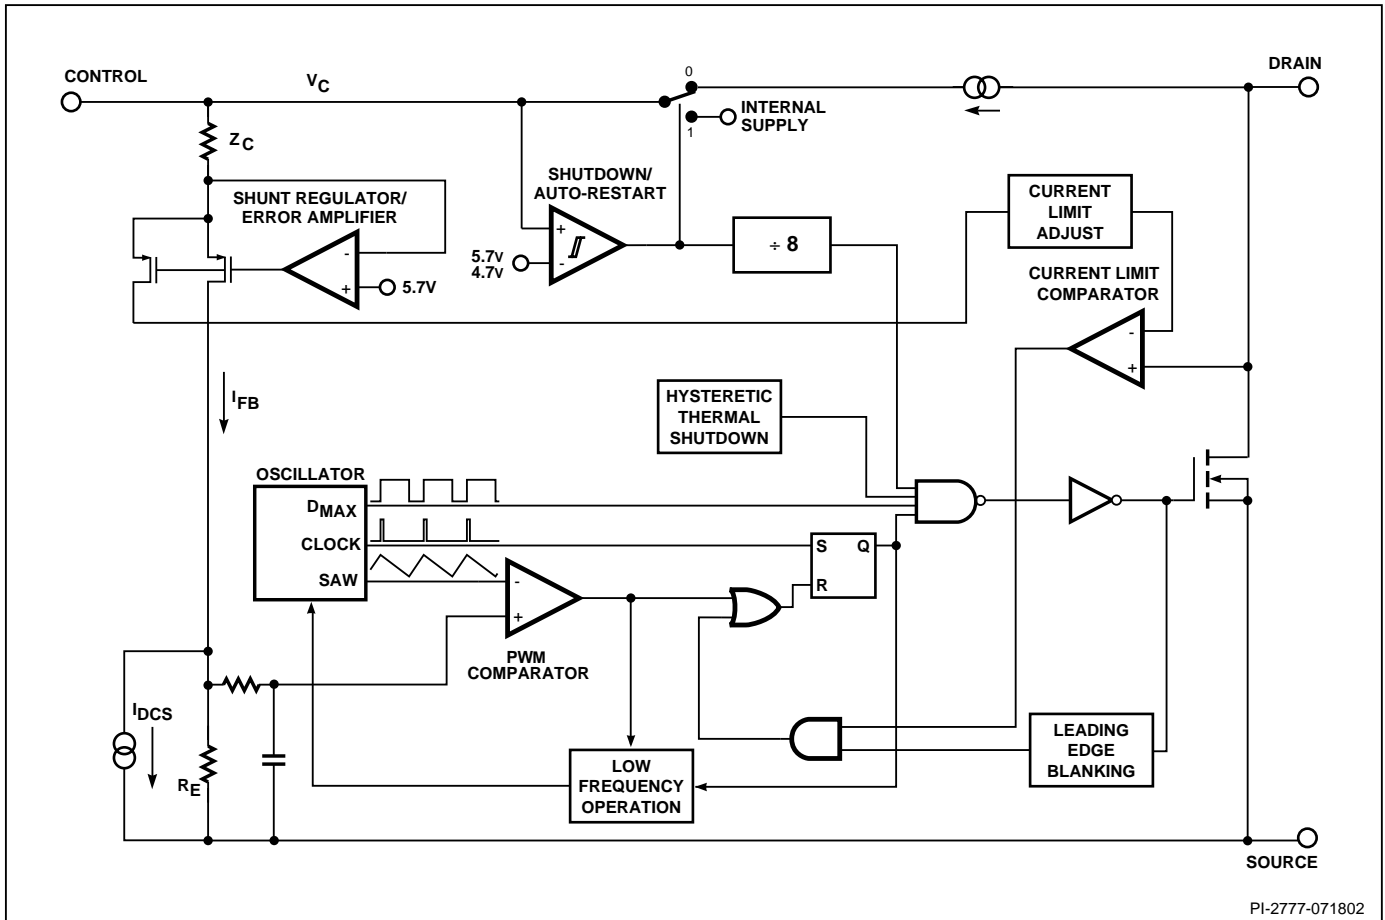
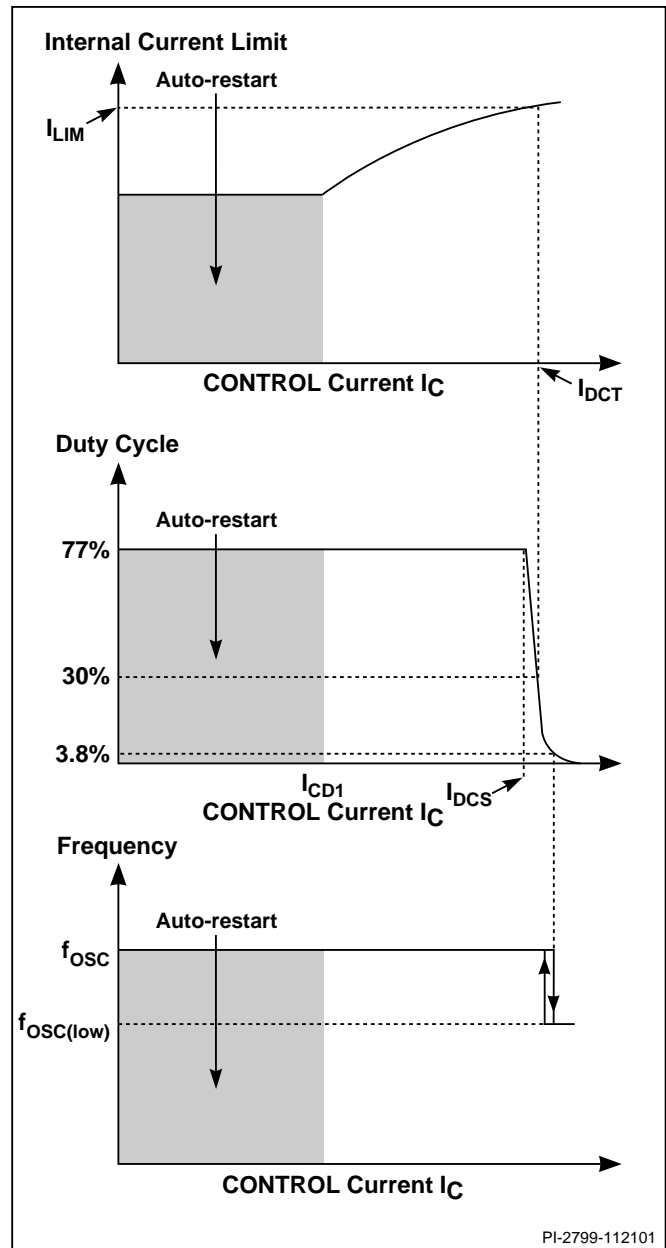
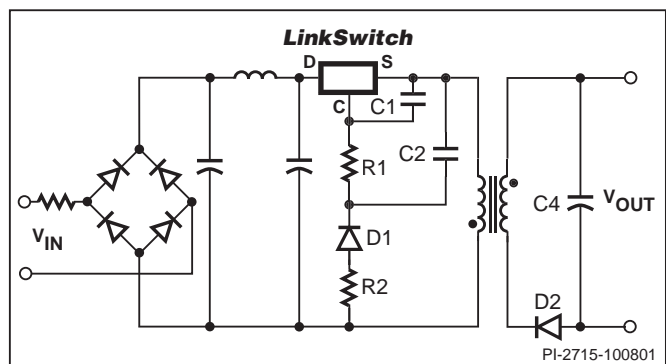
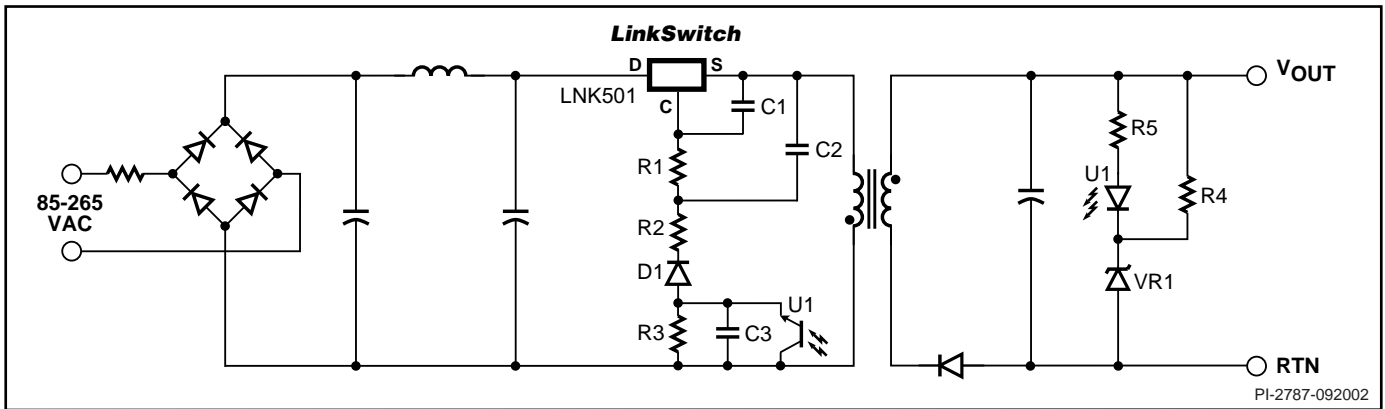

Figure 2. Block Diagram.
Figure 4. CONTROL Characteristics.
Figure 5. Power Supply Outline Schematic.
Figure 6. Power Supply Outline Schematic with Optocoupler Feedback.
The duty cycle, current limit and operating frequency relationships with CONTROL pin current are shown in Figure 4. Figure 5 shows a typical power supply outline schematic which is used below to describe the *LinkSwitch* operation.
During power up, as V_{IN} is first applied (Figure 5), the CONTROL pin capacitor C1 is charged through a switched high voltage current source connected internally between the DRAIN and CONTROL pins (see Figure 2). When the CONTROL pin voltage reaches approximately 5.7 V relative to the SOURCE pin, the high voltage current source is turned off, the internal control circuitry is activated and the high voltage internal MOSFET starts to switch. At this point, the charge stored on C1 is used to supply the internal consumption of the chip.
As the output voltage, and therefore the reflected voltage across the primary transformer winding ramp up, the feedback CONTROL current I_C increases. As shown in Figure 4, the internal current limit increases with I_C and reaches I_{LIM} when I_C is equal to I_{DCT} . The internal current limit vs. I_C characteristic is designed to provide an approximately constant power supply output current as the power supply output voltage rises.
When I_C exceeds I_{DCS} , typically 2 mA (Figure 4), the maximum duty cycle is reduced. At a value of I_C that depends on power supply input voltage, the duty cycle control limits *LinkSwitch* peak current below the internal current limit value. At this point the power supply transitions from CC to CV operation. With minimum input voltage in a typical universal input design, this transition occurs at approximately 30% duty cycle. R1 (Figure 5) is therefore initially selected to conduct a value of I_C approximately equal to I_{DCT} when V_{OUT} is at the desired value at the minimum power supply input voltage. The final choice of R1 is made when the rest of the circuit design is complete. When the duty cycle drops below approximately 4%, the frequency is reduced, which reduces energy consumption under light load conditions.
Figure 6 shows a typical power supply outline schematic using *LinkSwitch* with optocoupler feedback to improve output voltage regulation. On the primary side, the schematic differs from
Figure 5 by the addition of R3, C3 and optocoupler U1. R3 forms a potential divider with R1 to limit the U1 collector emitter voltage.
The feedback configuration in Figure 6 is simply a resistive divider made up of R1 and R3 with D1, R2, C1 and C2 rectifying, filtering and smoothing the primary winding voltage signal. The optocoupler therefore effectively adjusts the resistor divider ratio to control the DC voltage across R1 and therefore, the feedback current received by the *LinkSwitch* CONTROL pin.
When the power supply operates in the constant current (CC) region, for example when charging a battery, the output voltage is below the voltage feedback threshold defined by U1 and VR1 and the optocoupler is fully off. In this region, the circuit behaves exactly as previously described with reference to Figure 5 where the reflected voltage increases with increasing output voltage and the *LinkSwitch* internal current limit is adjusted to provide an approximate CC output characteristic. Note that for similar output characteristics in the CC region, the value of R1 in Figure 5 will be equal to the value of R1+R3 in Figure 6.
When the output reaches the voltage feedback threshold set by U1 and VR1, the optocoupler turns on. Any further increase in the power supply output voltage results in the U1 transistor current increasing, which increases the percentage of the reflected voltage appearing across R1. The resulting increase in the *LinkSwitch* CONTROL current reduces the duty cycle according to Figure 4 and therefore, maintains the output voltage regulation.
transistor voltage and dissipation ratings and should be fully tested before finalizing a design. The values of C2 and C3 are less important other than to make sure they are large enough to have very little influence on the impedance of the voltage division circuit set up by R1, R3 and U1 at the switching frequency. Normally, the values of C2 and C3 in Figure 6 are chosen equal to the value of C2 in Figure 5, though the voltage rating may be reduced depending on the relative values of R1 and R2 discussed above. See Applications section for typical values of components.
The output voltage load variation can be improved to be $\pm 5\%$ across the whole load range by adding an optocoupler and secondary reference (Figure 6). The secondary reference is designed to only provide feedback above the normal peak power point voltage to maintain the correct constant current characteristic.
The schematic shown in Figure 5 outlines the key components needed for a *LinkSwitch* Supply.
As the SOURCE pins in a *LinkSwitch* supply are switching nodes, the copper area connected to SOURCE together with C1, C2 and R1 (Figure 5) should be minimized, within the thermal constraints of the design, to reduce EMI coupling.